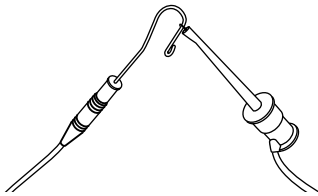

Fig. 8 Activating the Apex Locator with Lip Clip and File clip
2. To turn the apex locator on, attach the file clip for about 3 seconds to the lip clip. See Fig. 8.